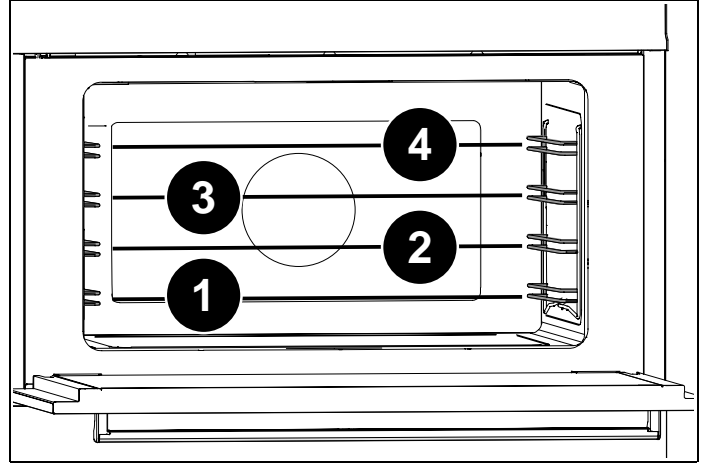

Fig. 28
- 4) Insert the spit support into the side runners at level 2 (Fig. 28). Put the food on the spit and place the entire assembly in the oven, engaging the tip of the spit with the shaft that protrudes at the rear of the oven.